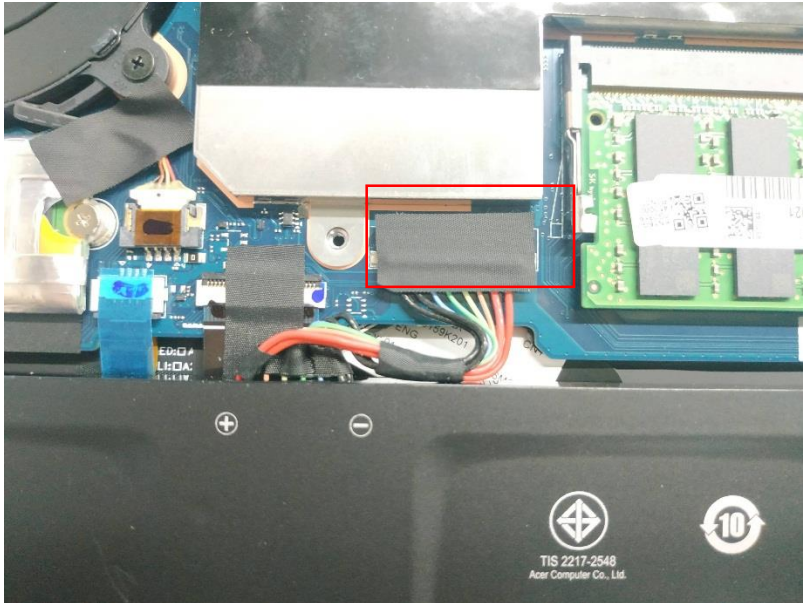

Figure 3-4. Battery
2. Open the buckle with a pick as showed figure3-4, then remove the lower case from the bottom side as shown in picture.